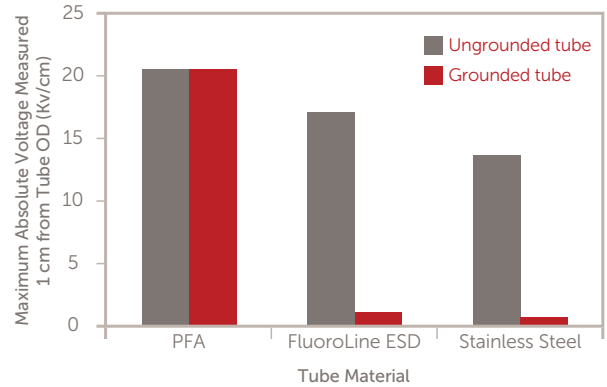

Figure 6: Field voltage on the outside of the tube
1. Grounding standard PFA tubing does not reduce the field voltage on the outside of the tube that is produced by flowing XCDA and DI water on the inside. Up to 20 KV field voltage was measured with the XCDA/DI water delivery system (Figure 6).
2. Grounding ESD PFA tubing and stainless steel does significantly reduce the field voltage on the outside of the tube that is produced by flowing XCDA and DI water flowing on the inside (Figure 6).